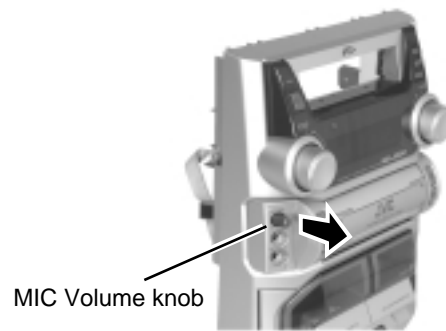

Fig.11
■ Removing the Microphone terminal board assembly (See Fig.11 and 12)